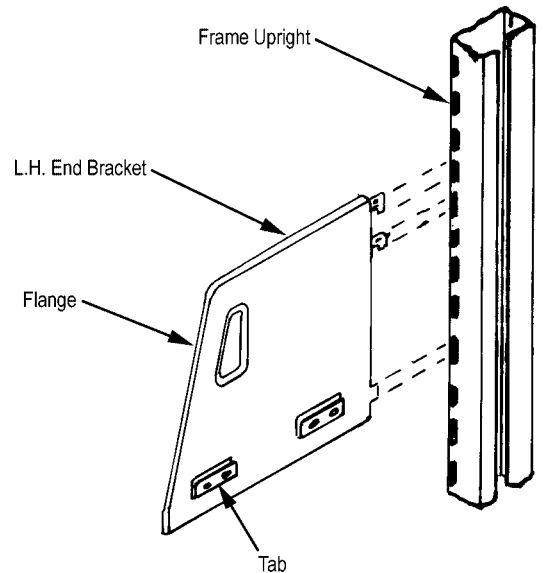

FIGURE 22
1. Place shelf end brackets in slots of frame - flange out and tabs in. See Figure 22.
**NOTE:** Left-hand end bracket shown in Figure 22.